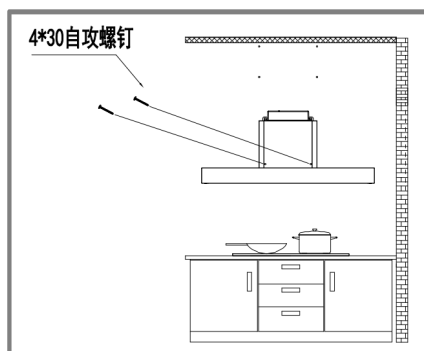

Fig. 8. 1
- Mount the appliance onto the wall and do ensure that it is properly engaged with the mounting screws 3 & 4 (Fig. 8)